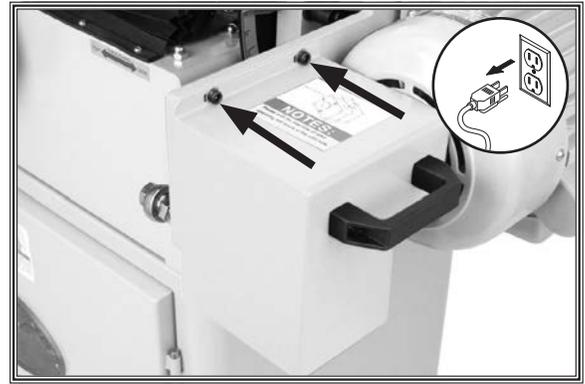

Figure 26. Gearbox cap screws.
3. Remove cap screws on top of gearbox cover shown in **Figure 26**.